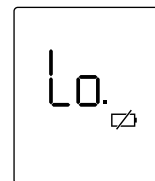

Figure 1
- After switching on the device, the “flat battery” indicator (Figure 1) appears on the display. You must insert a new battery before you can take any temperature measurements.